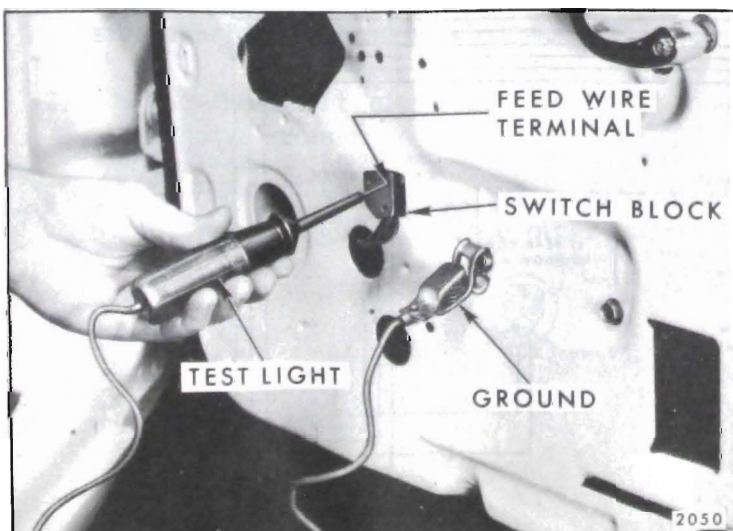

Fig. 11-20—Checking Feed Circuit
1. Connect one test light lead to feed terminal of switch block and ground other tester lead to body metal (see Fig. 11-20).